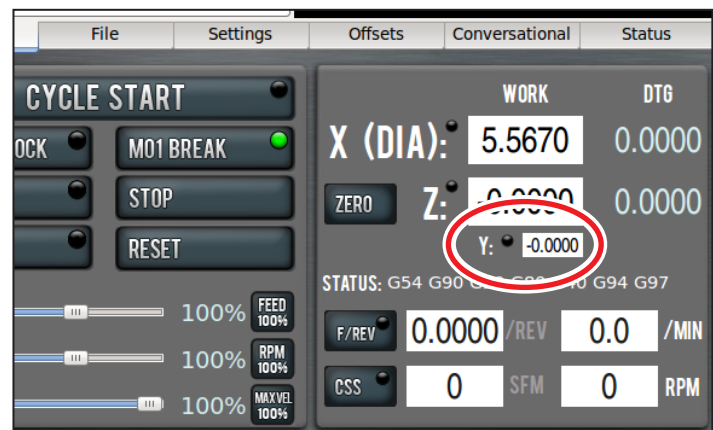

Figure 4.6
3. Enter 0 in Y digital read out (DRO) to zero Y-axis (see **Figure 4.6**). Press **Enter** after typing in the DRO to apply the value.